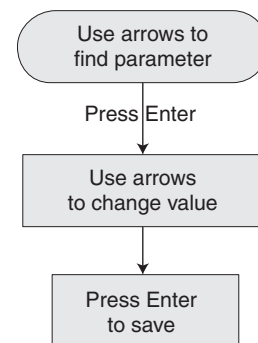

Figure 12 - Change Parameter Values
2. Follow the keypress sequence shown in Figure 12.
The password locks or unlocks the blue buttons on keypad (Figure 2). All Intellidrive units are shipped from factory with the default password 7777. It can be changed to any other 1 to 4 digit number. To reset password to a unique password for unit, unlock keypad and follow the keypress sequence (Figure 12) to make the change.